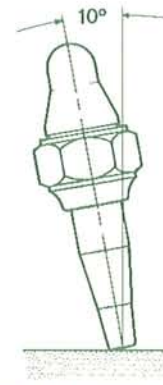

Figure 4: Flame Testing
10. Position the tip on the fire brick at a 10 degree angle as shown in Figure 4. Rock the Cutting Attachment from side to side on the fire brick for 5-8 seconds. The Cutting Attachment should "pop" during this flame test.